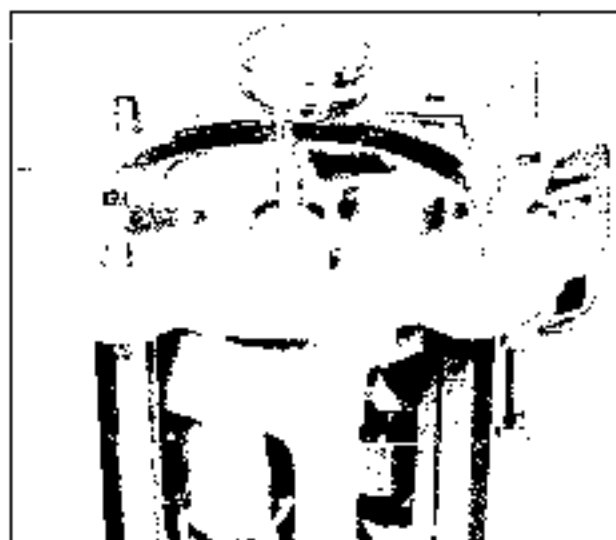

Fig. 1A-35 Checking Compressor Mainshaft End Play
c. An alternate method of selecting a proper race is to use J 9681 gauge for selecting a suitable feeler gauge leaf until the result is a 4 to 6 oz. pull on the scale between the rear thrust bearing and upper (or outer rear) thrust race (Fig. 1A-36). If the pull is just less than 4 ozs., add .0005" to the thickness of the feeler stock used to measure the clearance. If the pull on the scale reads just
d. Select from stock a numbered thrust race that corresponds to dial indicator reading (Fig. 1A-37).